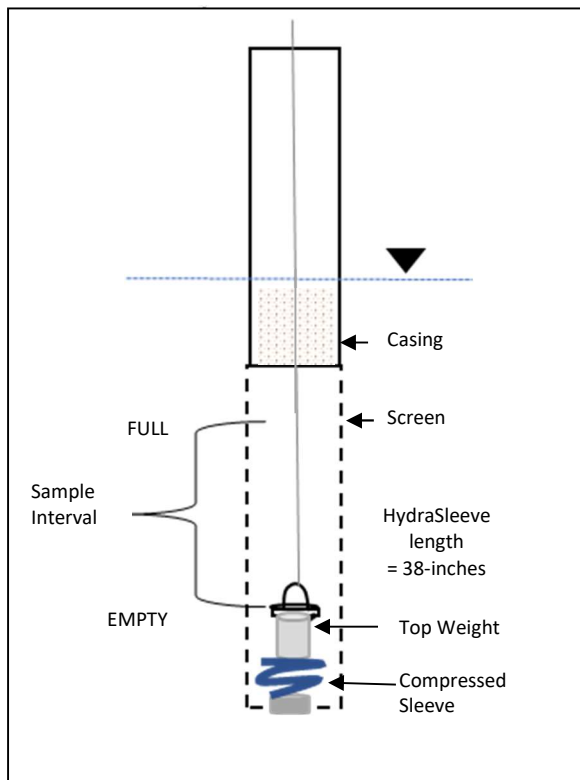

Figure 3a. Correct placement of HydraSleeve using a Top Weight to Compress the HydraSleeve.
**See Figure 3a.**
**Use a Top Weight (Fig 3a)**